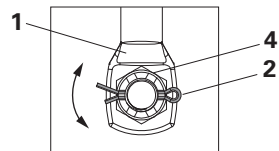

Fig. 18a
5. Insert the Split Pin (2) through the hole in the Bolt (3) and spread pin arms. (Fig. 18a)